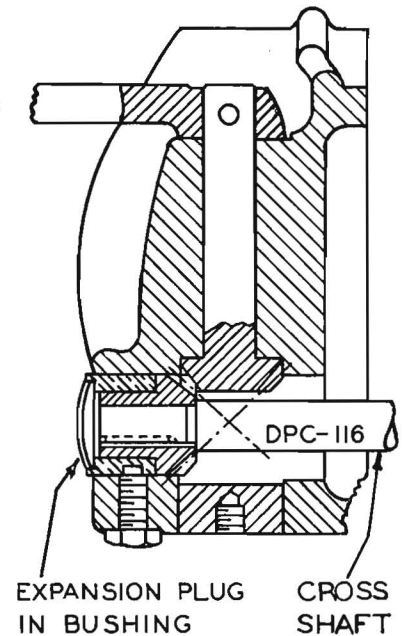

FIGURE 28
1. Drill and tap hole in center of  $1\frac{1}{4}$ " expansion plug in bush, (See Figure 28) and remove plug.